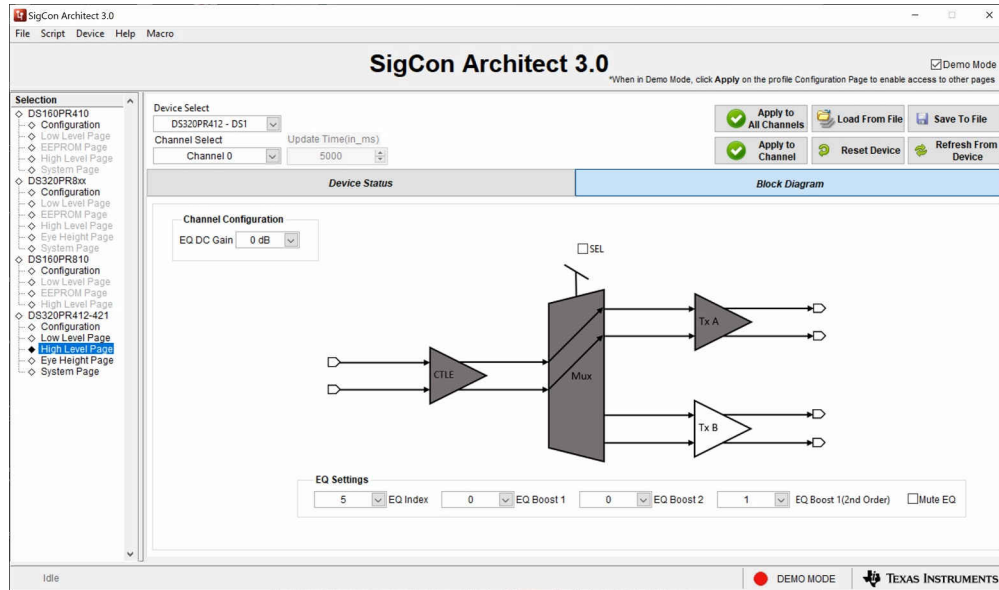

Figure 2-1. SigCon Architect DS320PR412-421 High Level Page
8. In the DS320PR412-421 High Level Page, select Block Diagram as shown in Figure 2-1.